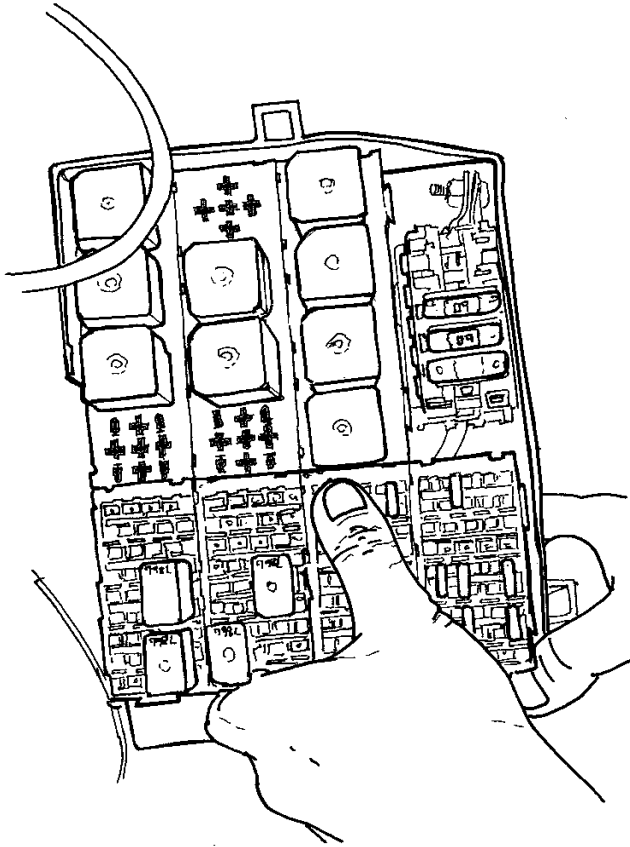

Figure 15 Installation Of P.D.C. Fuse Blocks
17. Reinstall the fuse block by pressing down the top of the fuse block while pressing in on the side of the fuse box (Figure 15). If the maxi fuse block came loose it must be installed first.